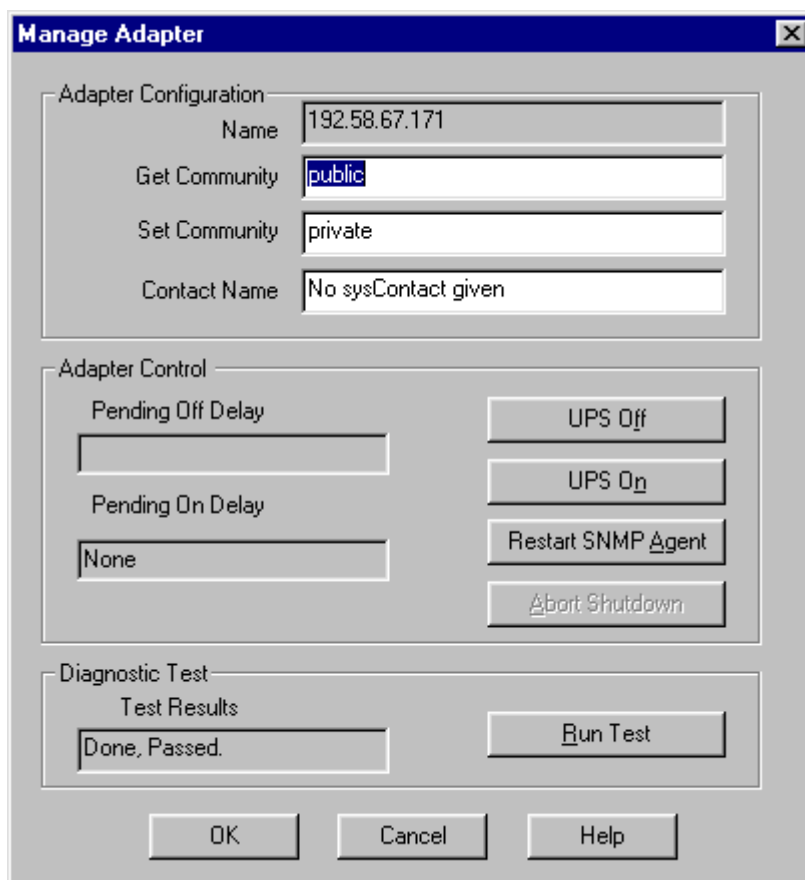

Figure 47. Manage Adapter Dialog Box
2. On the Toolbar click , or from the Manage menu choose Network Adapters. The Manage Adapter dialog box opens (see Figure 47).